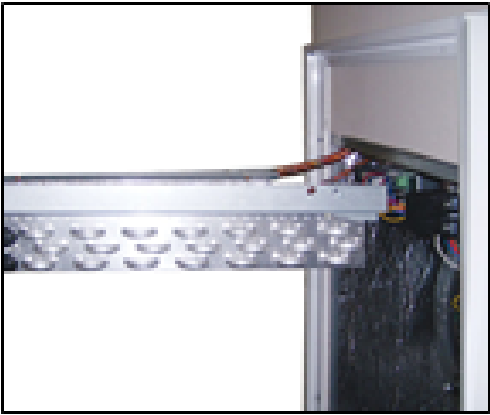

Figure 4.
4. Gently pick the coil up out of the drain pan and slowly rotate the coil toward you. Ensure that the copper flex tube is bending in the middle and not kinking (see Figure 4).